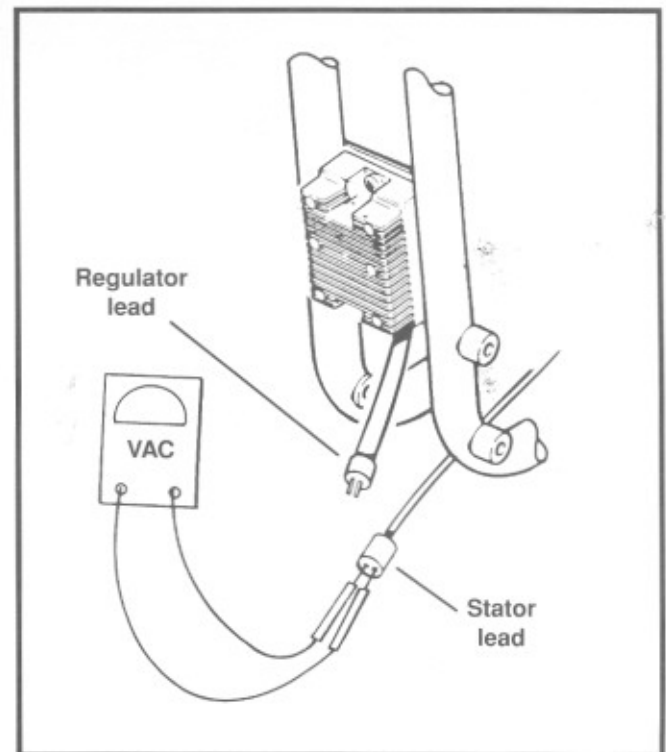

Figure 7-46. Check Stator AC Voltage Output
1. See Figure 7-46. To test AC output, disconnect the regulator and connect an AC voltmeter across both stator sockets. Run the engine at 2000 R.P.M. The AC output should be 38-52 volts AC.